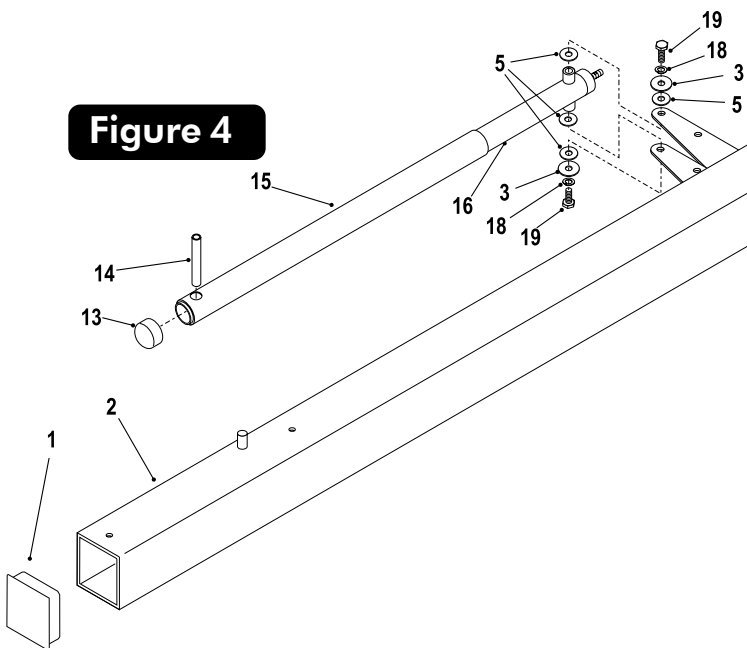

Figure 4
- Slide Actuator Sleeve (#15) over Actuator (#16) and place Actuator Cap (#13) on top. Slide Pivot Tube (#14) in hole near the top of Actuator until equal amounts stick out on both sides of Actuator. See Figure 4.
- Lay Pole (#2) on its side on two padded saw horses. Secure Actuator (#16) to Pole (#2) using one bolt (#19), split lockwasher (#18), washer (#3) and two plastic washers (#5) to thread into each side of Actuator. See Figure 4. Tighten bolts tight.